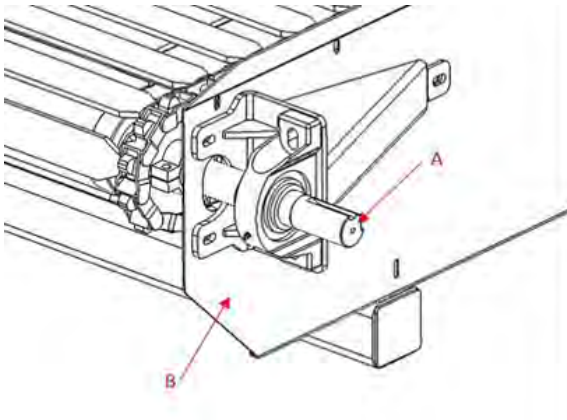

Figure 7-11a: Floor Shaft
It is important to have proper floor shaft alignment for ideal performance of the gearbox that is mounted on the shaft. Referring to Figure 7-11a, there is to be a distance of 10.25" between the end of the shaft (A) and the outside wall of the floor (B).